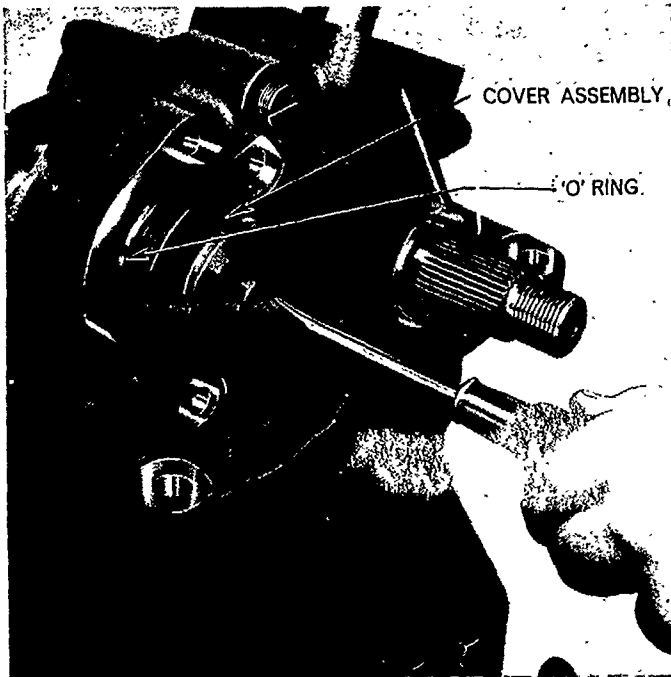

Figure 36
9. Remove the rocker shaft adjuster locknut and washer. Screw the adjuster clockwise until the cover is free, and remove the cover, Figure 36.